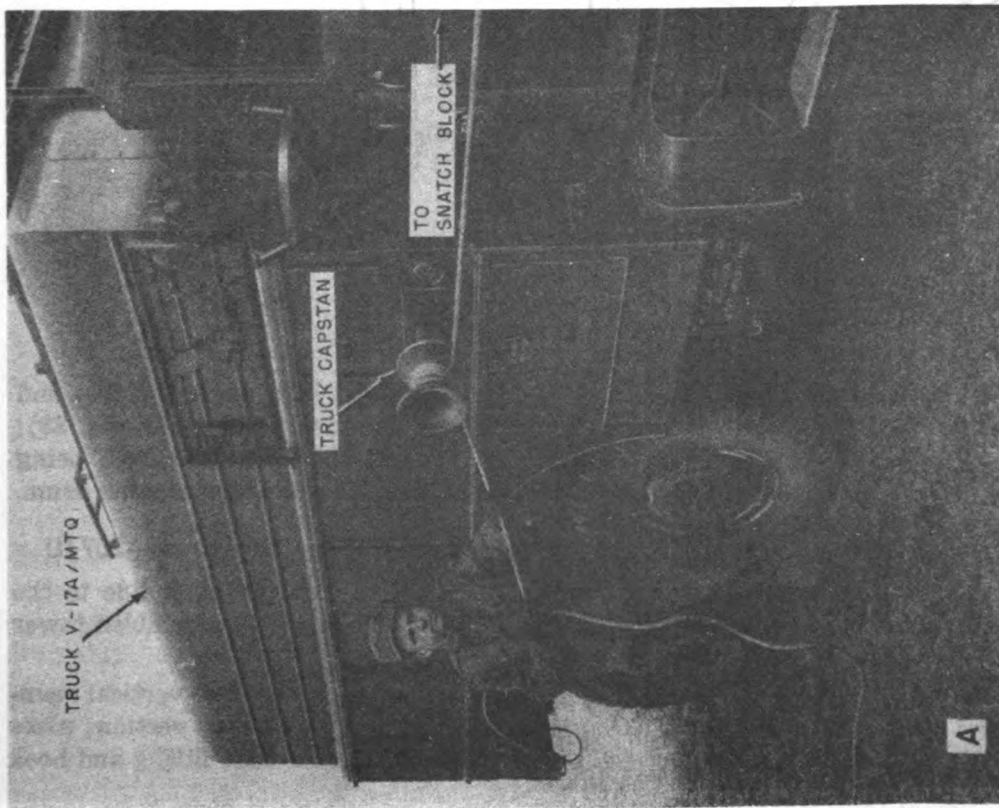

Figure 20. Raising tower sections with Truck V-17A/MTQ.
(fig. 20).
- (f) Wrap sufficient turns of the hoist line in a clockwise direction around the power reel or capstan to provide the necessary friction to raise the load (fig. 20). Have one man apply a steady tension on the free end of the hoist line as it comes off the power reel. The window on the curbside of the truck should be open so that the man applying tension to the hoist line may give directions to the truck driver.